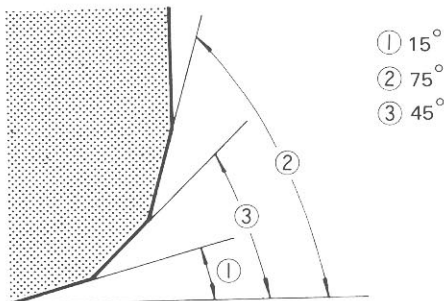

Fig. 3-67 Valve seat angles for exhaust valve seat
1) EXHAUST VALVE SEAT: Use a valve seat cutter to make three cuts in the order illustrated in Fig. 3-67. Three cutters must be used: the first for making the 15° angle, the second for making the 75° angle and the last for making the 45° seat angle. The third cut ③ must be made to produce the desired seat width (w)